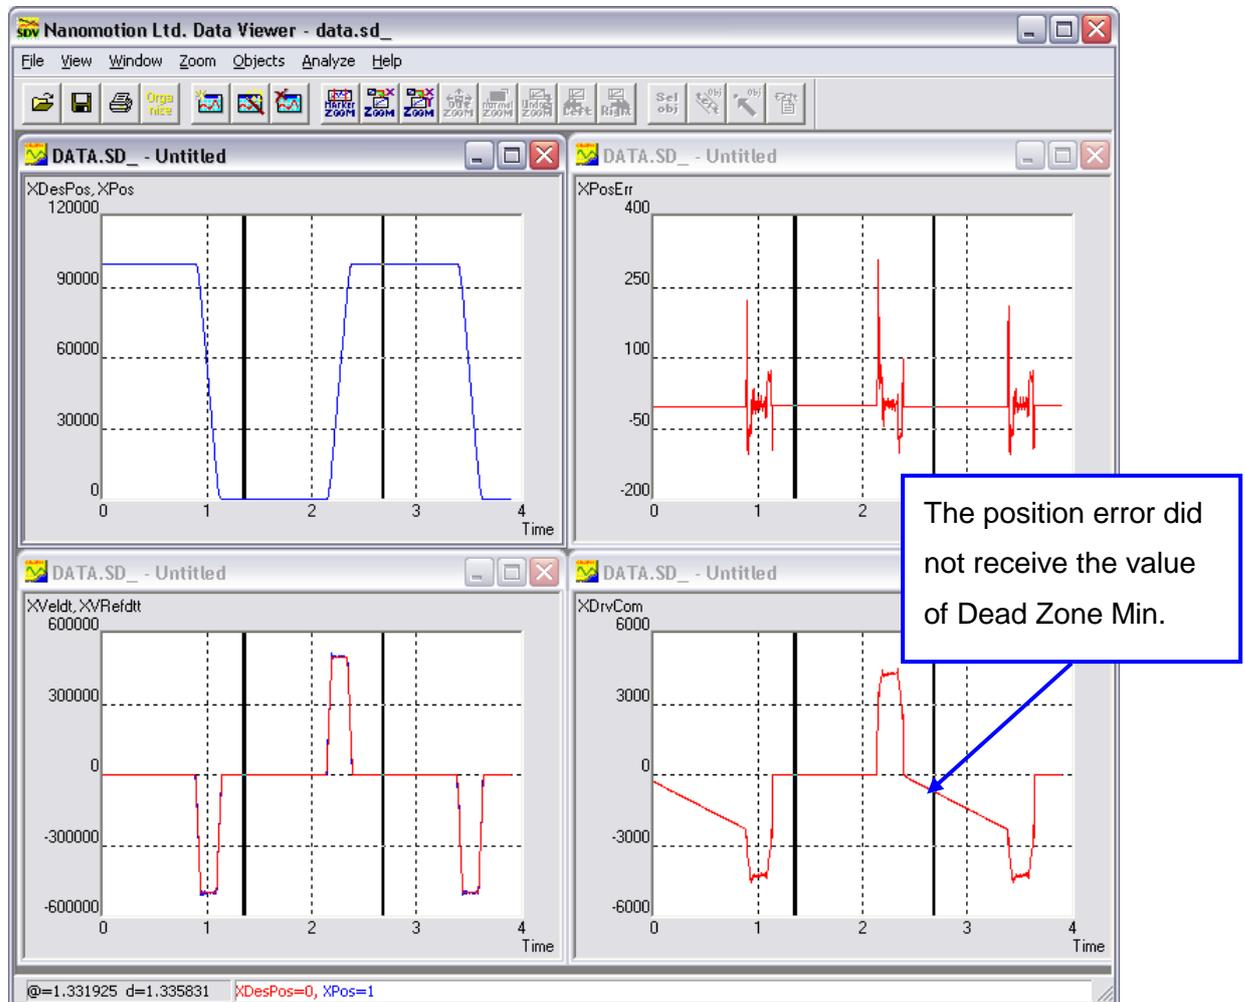

Figure 16: Inaccurate Position Error Converging – AB1A Driver
- The driver shape should be similar to the velocity shape. Otherwise, as shown in Figure 16, reduce KP, record data and observe again.